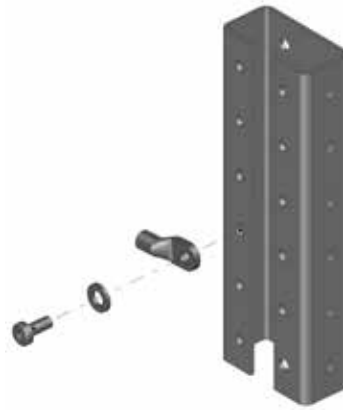

Fig. 37 Protective conductor connection to C-section vertical structural bar
- To the vertical section located at front right (see fig. 37) using an M6 screw.